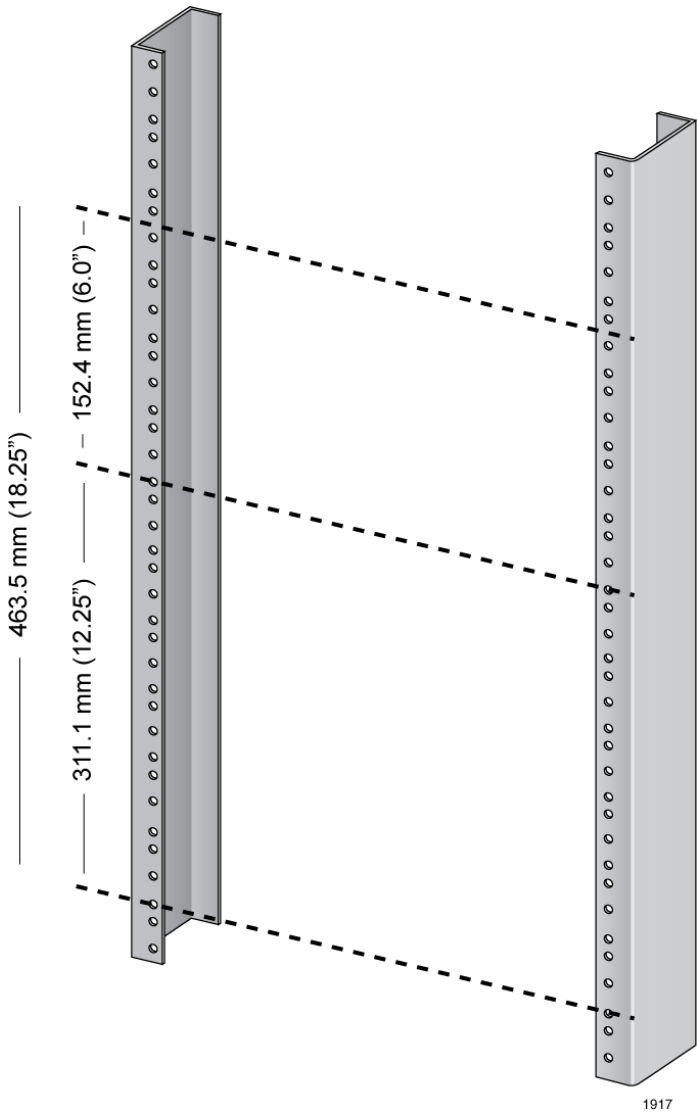

Figure 28. Reserving Vertical Rack Space
1. Reserve 311.1 mm (12.25") of vertical rack space for the installation of the AT-SBx8112 Chassis, as shown in Figure 28 on page 92.